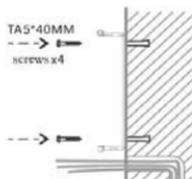

Figure 3-7
A. Align the screw holes of the wall bracket with the holes in the wall and fix them to the wall with the TA5 x40mm screws, as shown in Figure 3-7.